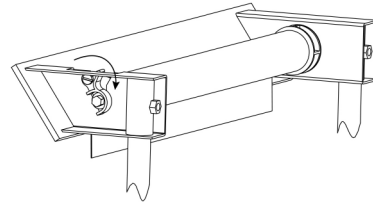

Fig.6
- Rotate the locking lever back down over the head of the hex bolt. (See Fig.6)